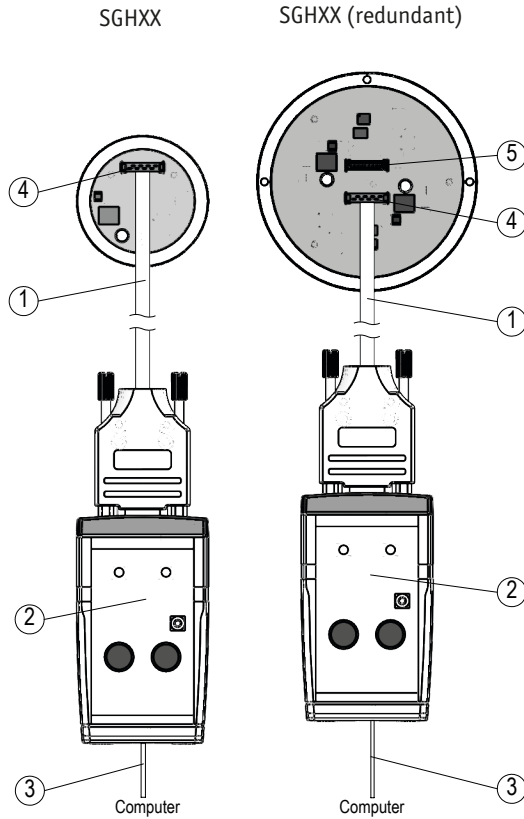

Fig. 2: Connection to the cable encoder when not installed
Before installation of the wire-actuated encoder into the cylinder, the ProTool SGH can also be connected directly to the Programming cable with flat connector. This must be plugged into PCB connectors 1 ⑤ and 2 ⑥ (see Fig. 2).